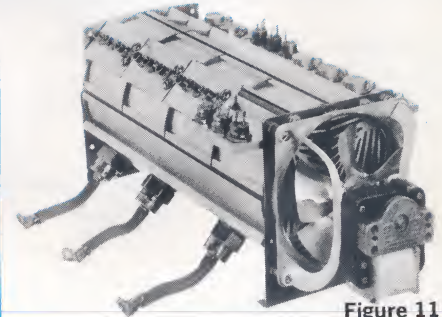

Figure 11
- * Deltaire 40. (See front cover or Fig. 11)